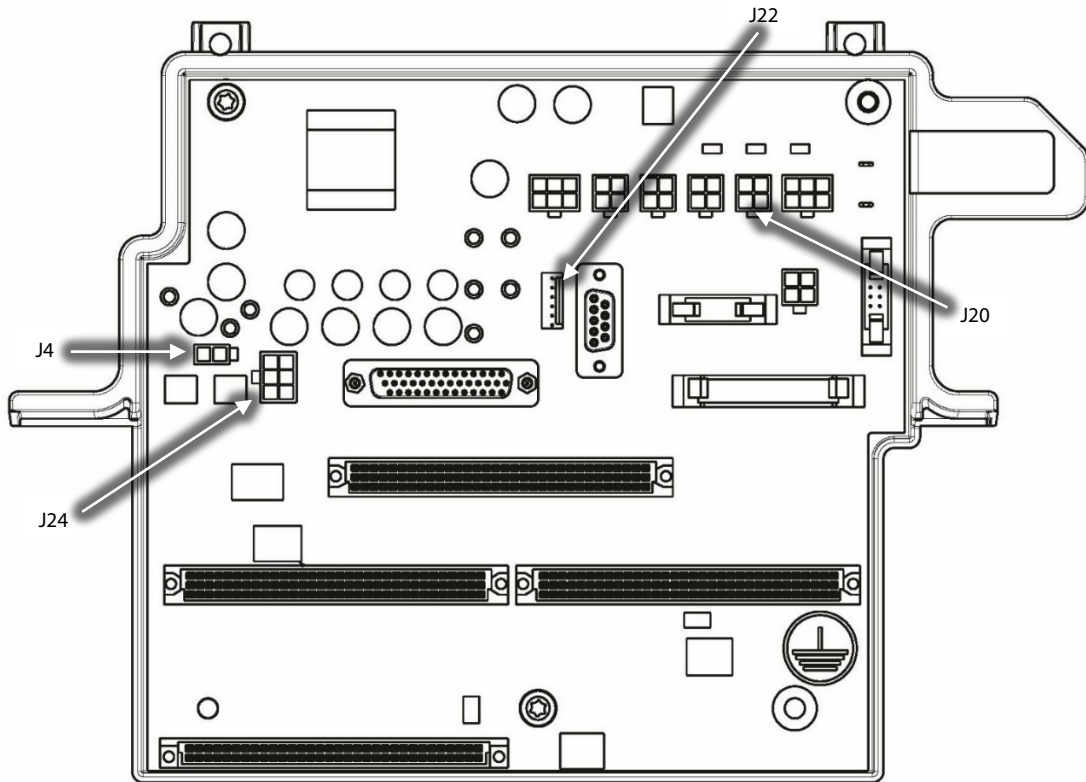

Figure 8 – Backplane Connector Locations
- Disconnect the J4, J20, J24, and J22 (if present) from the Backplane. Refer to Figure 8 (Backplane Connector Locations).